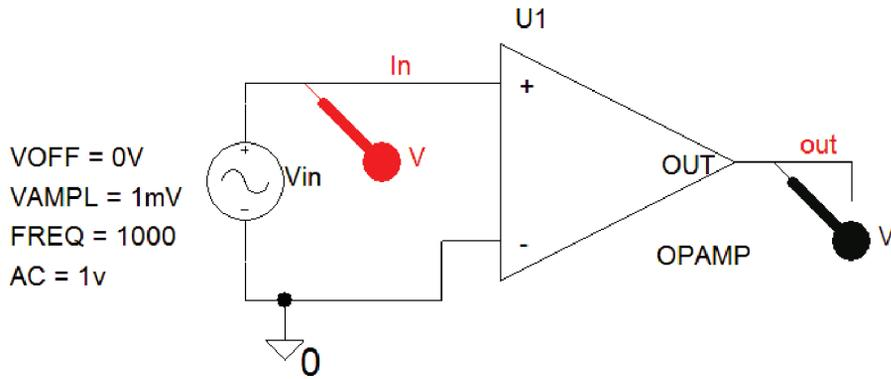
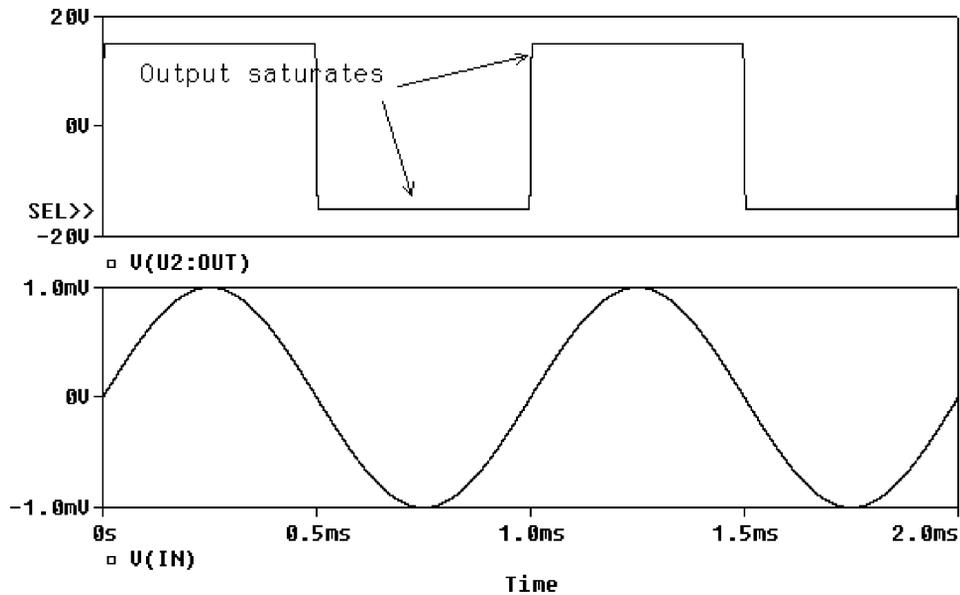

FIGURE 8.31: Noninverting op amp
FIGURE 8.32: Gain-Bandwidth product
- (3) Investigate the opamp open-loop gain characteristics using the schematic shown in Fig. 8.31. The response should be similar to that shown in Fig. 8.32.